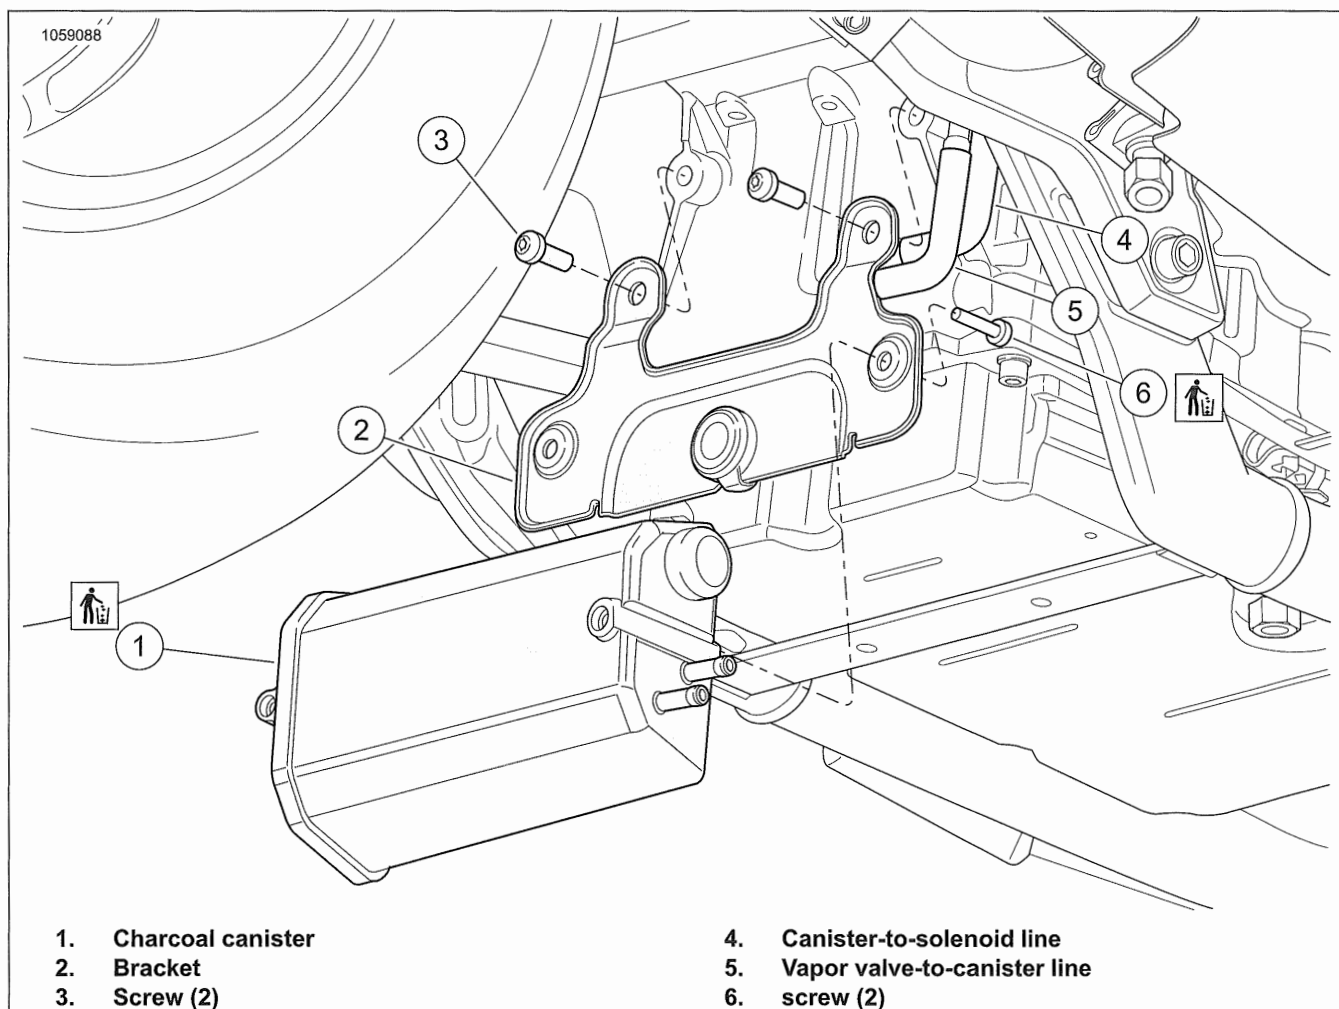

Figure 6-48. Charcoal Canister
1. See Figure 6-48. Remove charcoal canister and bracket assembly.
- b. Remove screws (3).
- c. Remove charcoal canister (1) and bracket (2).
1. See Figure 6-48. If removed, install charcoal canister to bracket.
- a. Install **new** charcoal canister (1) onto bracket (2).
- b. Install **new** screws (6). Tighten.